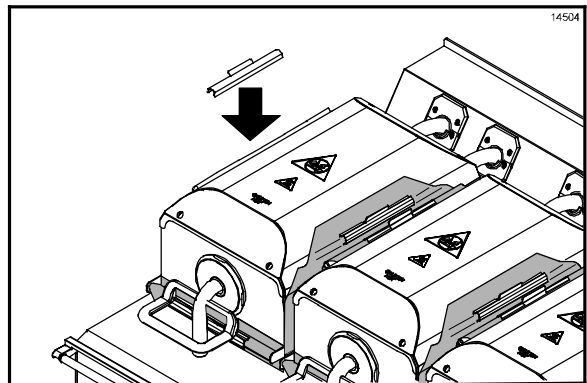

Figure 109
43. Re-install the release sheets on the opposite side than previously used. Secure the sheets with the locking clips and bars. (See Figure 109.)